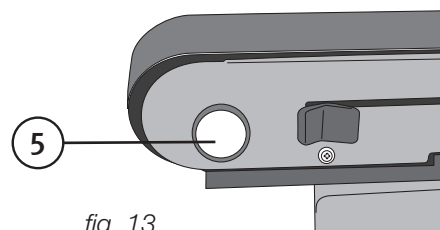

fig. 13
3.6 Sanding belt tracking (fig. 13)